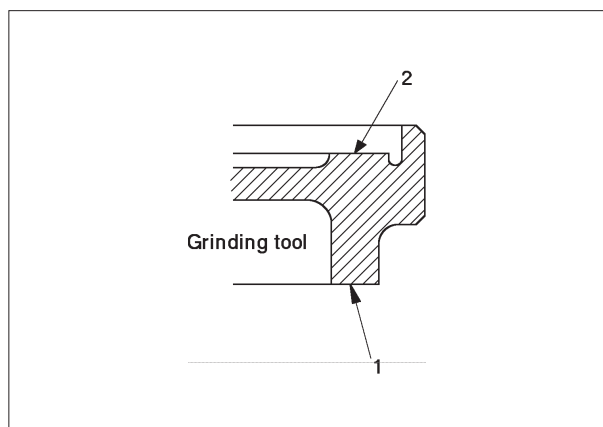

Fig. 1.
**Note:** The grinding tool is used for both grinding the groove in the liner flange (1) and the seating surface on the cylinder head (2), see fig. 1.